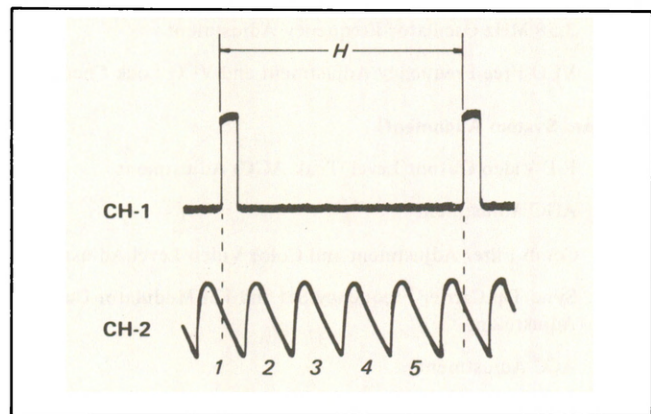

Fig. 4-28. VCO lock check
- (7) Check that the frequency at TP10 is 688,373 Hz.
- (8) Connect the oscilloscope CH-1 probe to pin 20 of IC3 and the CH-2 probe to pin 23 of IC3. Check that the CH-1 and the CH-2 waveforms are as shown in Fig. 4-28.